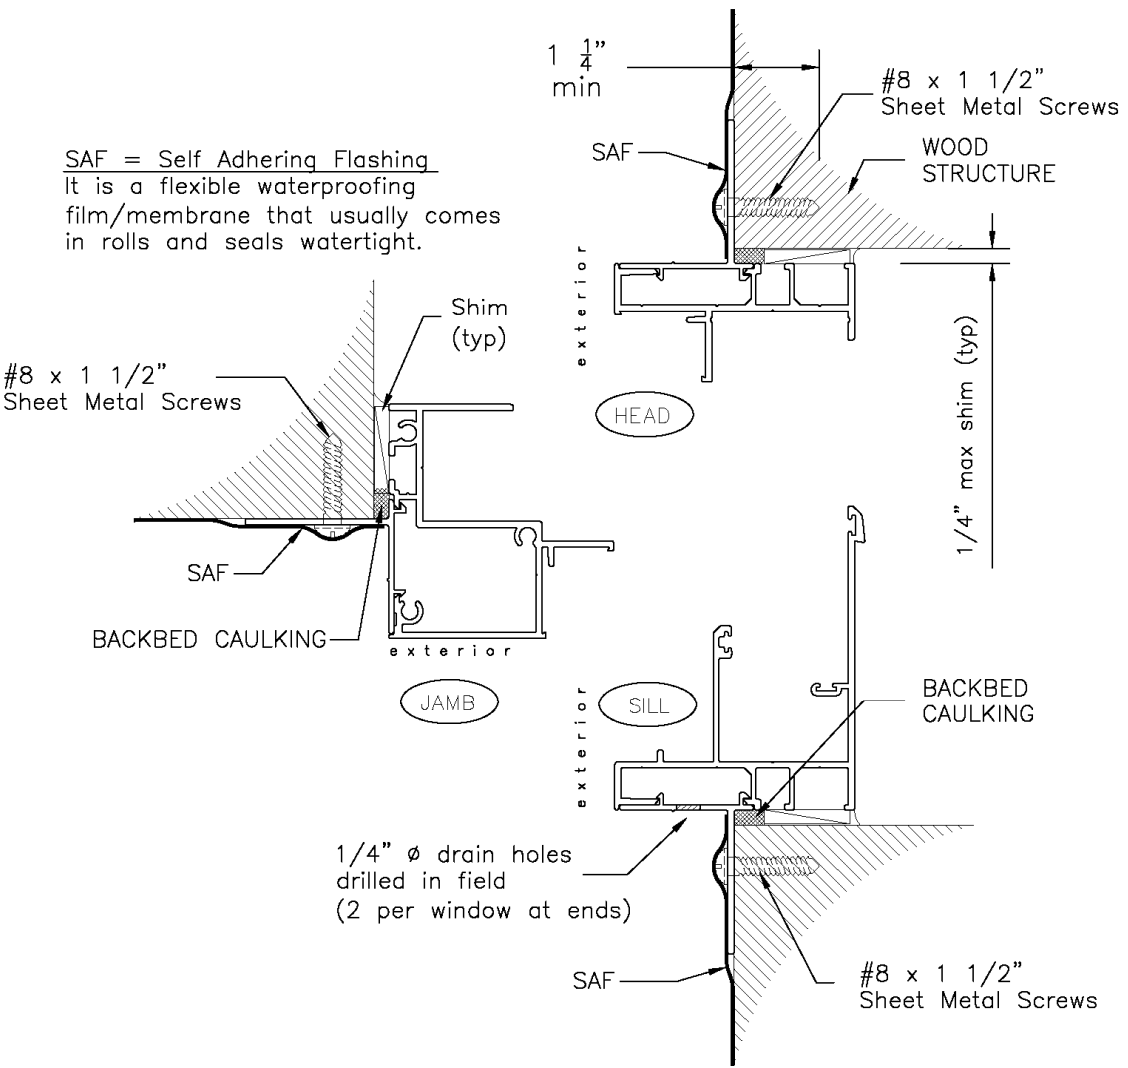

Figure 6: Installation type "D" using Fin Frame
Page 10:	Figure 6: Installation type “D”
INSTALLATION INSTRUCTIONS **for Fin Frame Windows (Refer to Figure 6)**
5. After fin adaptor is attached, drill two ¼” diameter drain holes (approx. 4” from each end) at the bottom fin adaptor on each window (*refer to figure 6*). This will allow any water that may get trapped behind the fin adaptors and the window to drain out. Note: These holes can also be drilled prior to attaching the adaptor.
8. Secure window using installation screws as selected from the approval documents for your specific application (*see figure 6*). Shim window to main structure at every installation screw location (shim space should not exceed ¼”). You can